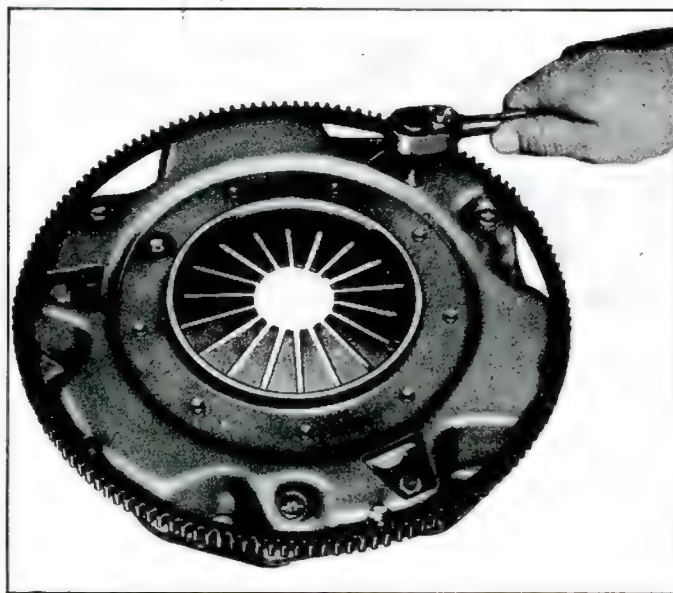

Fig. 7-6—Removing Drive-Strap Bolts
1. Remove three drive-strap to pressure plate bolts and retracting springs (fig. 7-6) and remove pressure plate from clutch cover.